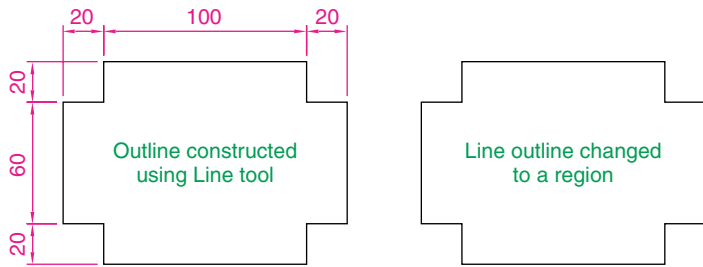

Fig. 13.9 First example – Line outline and Region
First example – Line outline and Region (Fig. 13.9)
1. Construct the left-hand drawing of Fig. 13.9 using the **Line** tool.
The three examples of forming regions given in Figs 13.9, 13.11 and 13.12 are used here to show the results of using the **Extrude** tool.